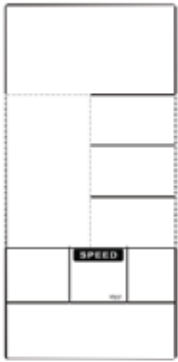

Figure 50
- 1 Hold on START&ENTER key for 2s, buzzer will sound 1 long beep. SPEED keep lighting up, M/H,KM/H flash once per second (Figure 50~51).